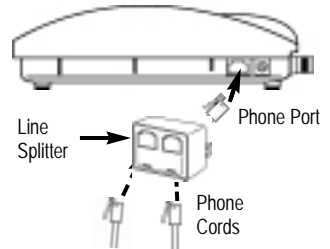

Figure 8 – An optional Line Splitter lets you connect additional phones to your Phonocell SX4e.
- 3) To add more telephones, plug in a line splitter (not supplied) to the phone port - **see Figure 8.**